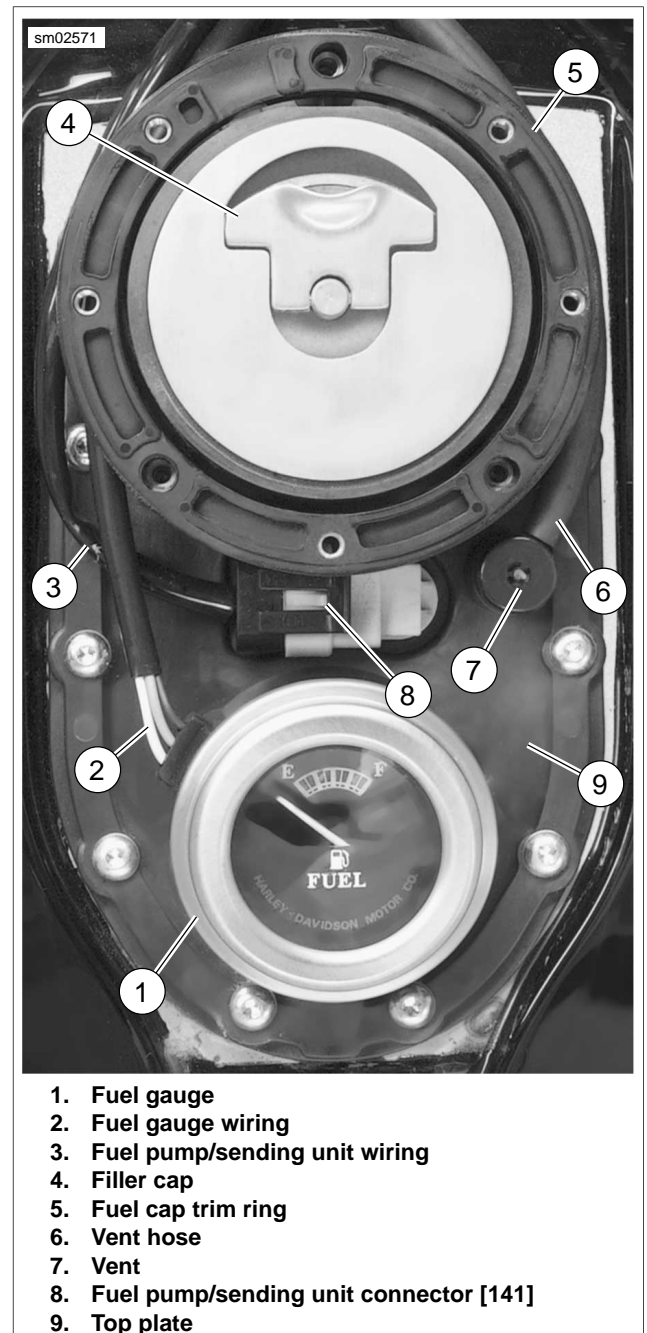

Figure 8-40. Top Plate: FXD
4. See Figure 8-40. Remove fuel gauge (1) from top plate (9).
1. See Figure 8-40. Install fuel gauge (1) into top plate (9).
2. Route fuel gauge wiring (2) as shown.
1. See Figure 8-40. If removed, install trim ring (5) so holes in fuel cap trim ring align with threaded towers of top plate.